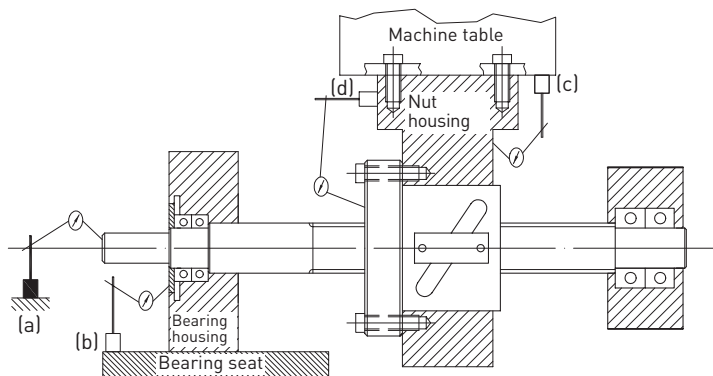

Fig. 7.2 Establishing reason for abnormal play
1. Glue ball gauge in central hole at one end of ballscrew shaft. Use a dial gauge to measure the axial backlash of the ball gauge as you rotate the ballscrew shaft (Fig. 7.2 (a)). It should not move any more than 0.003 mm if the bearing, ballscrew nut and nut housing are fitted correctly.
2. Use a dial gauge to measure the relative movement between the bearing housing and bearing seat as you rotate the ballscrew shaft (Fig. 7.2 (b)). Any measurement other than zero shows that the bearing is either not rigid enough or incorrectly mounted.
3. Check relative movement between machine bed and housing of ballscrew nut (Fig. 7.2 (c)).
4. Check relative movement between housing of ballscrew nut and flange (Fig. 7.2 (d)).
The housing mounted on the ballscrew nut or on a bearing may twist under the weight of the components or machine load if not rigid enough. The test structure shown in Fig. 7.2 (d) can be used to test the rigidity of the nut housing. Similar test structures can be used to test the rigidity of bearing housings.